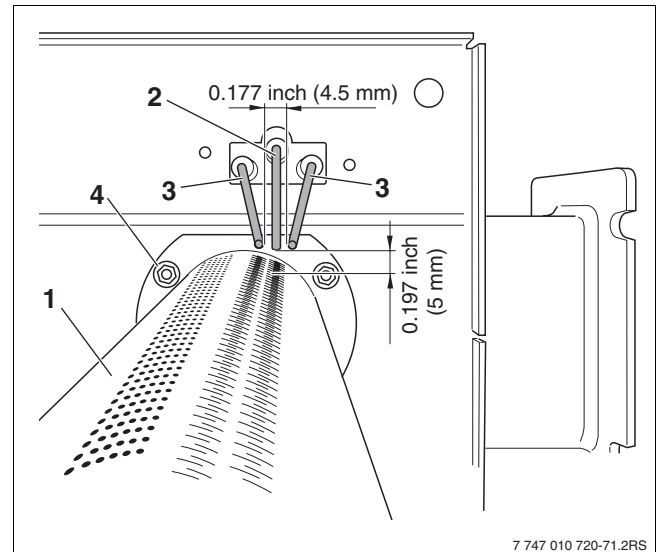

Fig. 68 Checking electrode position for natural gas
- Measure the distances between the electrodes as shown in Fig. 68 and adjust as necessary.
- Adjust the burner rod so that the electrodes are in the position shown in Fig. 68. The electrodes must be positioned above the row of slots.